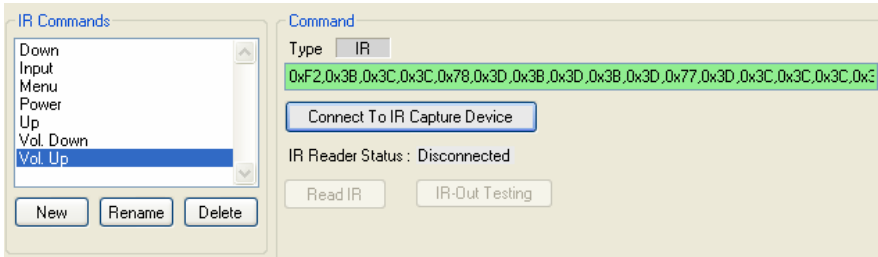

Figure 4: IR Command Area Window
9. Click the Read IR button (see Figure 4) to read the command. Wait for about 2 seconds for the following message to appear in the command area:
The IR command appears, as illustrated in Figure 4.
3. In the Command Area, click the Connect to IR Capture Device button (see Figure 4), select the port and click OK.
4. Click the IR-Out Testing button (see Figure 4). The SIGNAL LED lights.